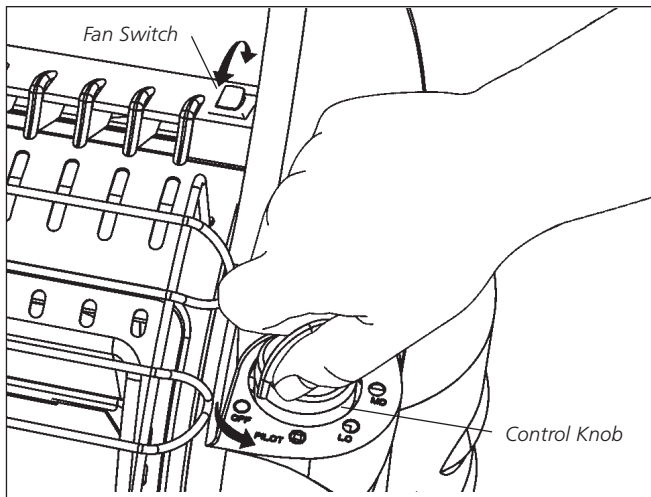

Figure 1
- Make sure five-position Control Knob is in "OFF" position; see Figure 1.
- For added heat circulation turn red fan switch to on. The fan switch is located just left of control knob side handle support. See Figure 1.
- Make sure five-position Control Knob is in "OFF" position; see Figure 1, at left.